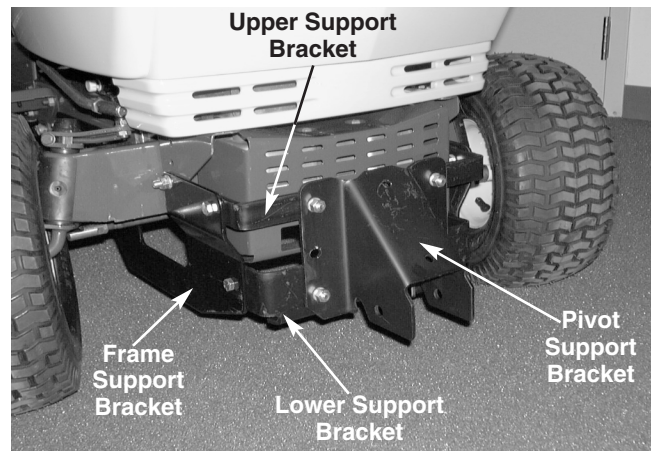

FIGURE 6.
12. Secure the upper and lower support brackets to the pivot support bracket with four hex bolts, lock washers, and hex nuts. Tighten using a 9/16" socket. See figure 6.
13. Secure the upper and lower support brackets to the frame support brackets with four hex bolts, lock washers, and hex nuts using a 9/16" socket. See figure 6.